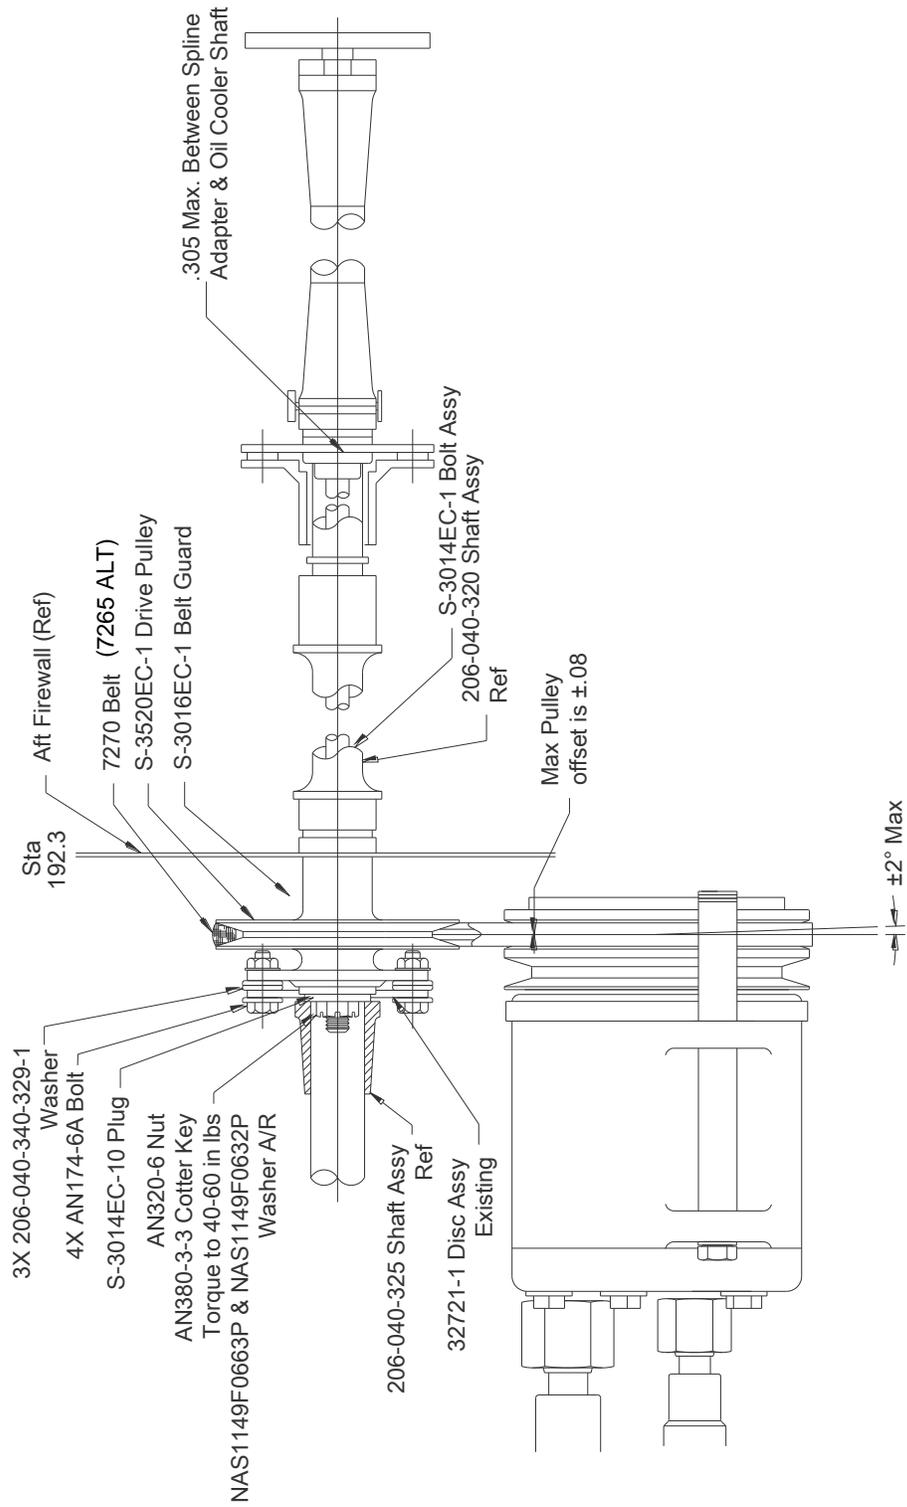

Figure 12: Compressor Drive Belt – View H-H
6. REMOVE AND REPLACE COMPRESSOR DRIVE BELT (Figure 12).**6.1 REMOVE COMPRESSOR DRIVE BELT**
7. REMOVE AND REPLACE COMPRESSOR DRIVE PULLEY (Figure 12)